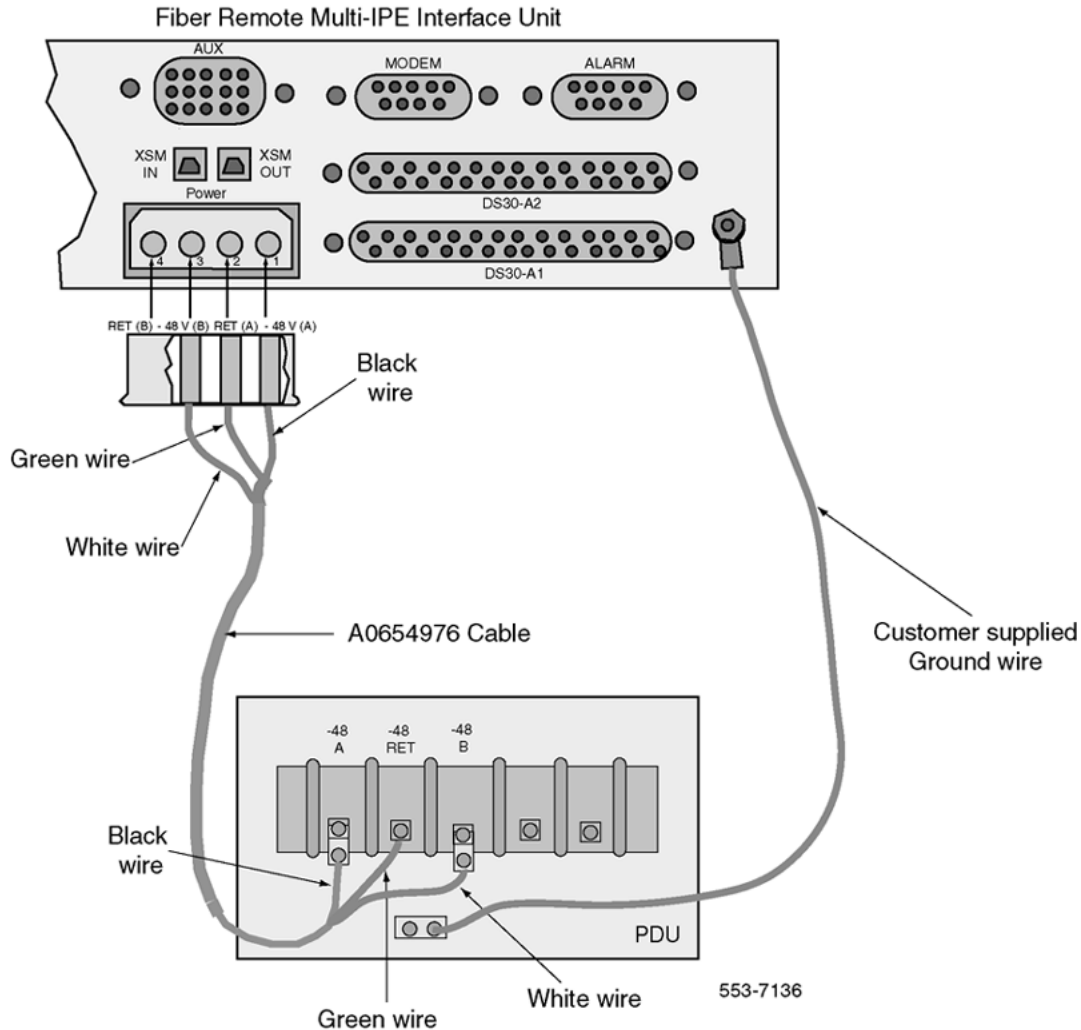

Figure 12: DC power connection of the Fiber Remote Multi-IPE Interface unit
To install the A0654976 DC Power Cable between the system -48 V DC power source and the power connector on the Fiber Remote Multi-IPE Interface unit, refer to Figure 12: DC power connection of the Fiber Remote Multi-IPE Interface unit on page 67 and follow the steps in Connecting the DC power source on page 65.
6. Connect the white wire at the connector end of the A0654976 DC Power Cable to the Ground lug at the Fiber Remote Multi-IPE Interface unit I/O panel, as shown in Figure 12: DC power connection of the Fiber Remote Multi-IPE Interface unit on page 67.
Figure 12: DC power connection of the Fiber Remote Multi-IPE Interface unit on page 67 shows the power connection of the Fiber Remote Multi-IPE Interface unit to the local DC power source.